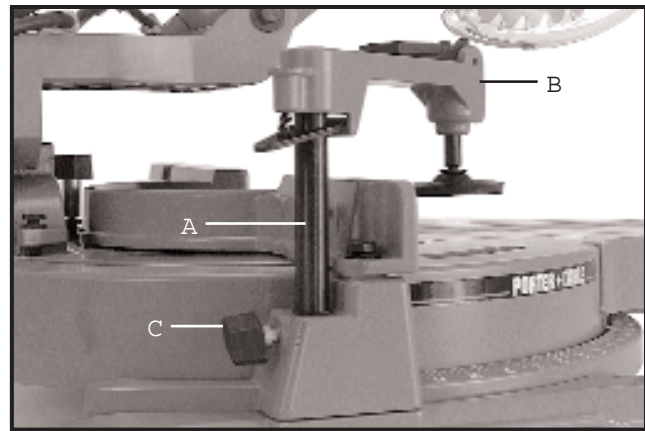

Fig. 14
1. Insert post (A) Fig. 14, of work clamp assembly (B) down through hole in the base of the machine as shown and lock in place by tightening lock knob (C). The work clamp (B) Fig. 14, can be used on the right or left side of the cutting head.